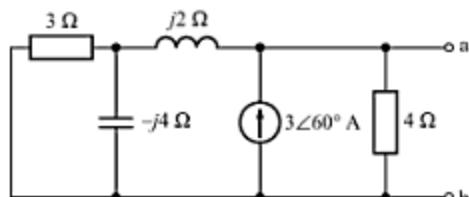

Fig. C-65
- C-96. Find  $Z_{Th}$ ,  $V_{Th}$ , and  $I_N$  for the Thevenin's and Norton's equivalents of the circuit shown in Fig. C-65.